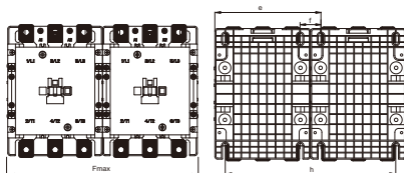

Figure 4 CJX2s-120~630N
- See Figure 4 and Table 5 for overall and mounting dimensions of the reversible AC Contactors